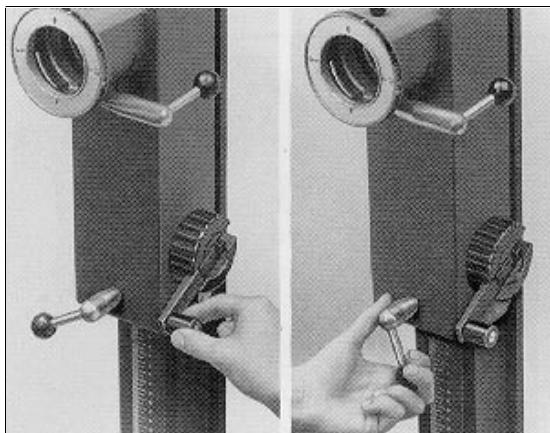

Figure 2-13. Lowering and Locking Vertical Carriage
- e. Wind vertical carriage down the column until it is at an easily accessible height (figure 2-13), then lock it in position.